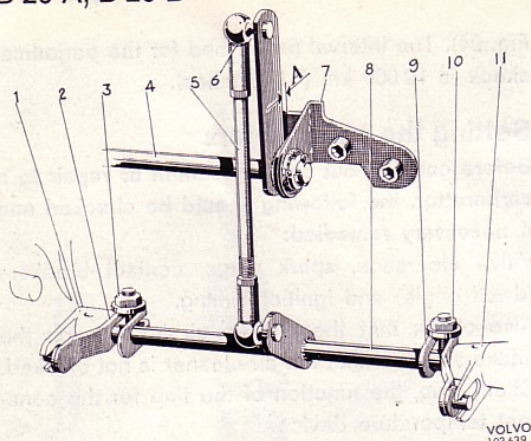

Fig. 118 Intermediate shaft and levers
2. Fit the intermediate shaft in position between the carburetors, see Fig. 118. Make sure that the protective plate is not damaged and that the sealing surfaces are clean.
1. Place a feeler gauge 0.5 mm (0.02") at "A" Fig. 118, between the lever and its stop. Screw out the fast-idle stop and throttle stop screws so that the throttles are closed completely.
2. Release the nuts (3 and 10, Fig. 118) and carefully press the outer end of the levers (2, 9) on the intermediate shaft downwards so that the flange pins make smooth contact with the lower tooth on the levers (1, 11) of the throttle spindles.